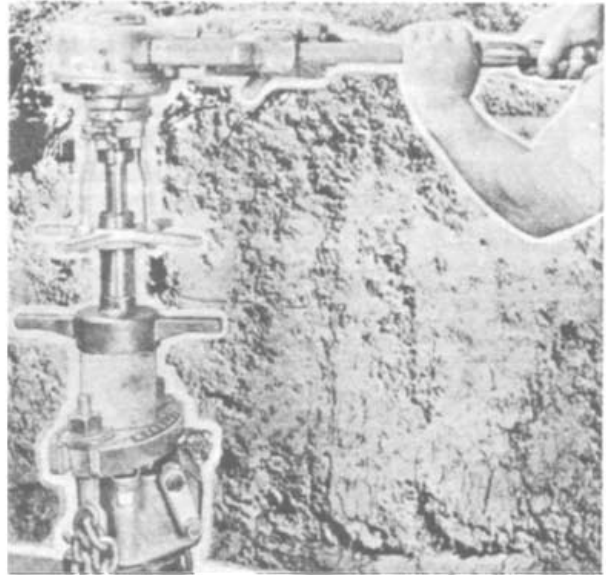

FIGURE 12
3. Start drilling operation (FIGURE 11 shows the H-603 Electric Power Operator and FIGURE 12 shows the H-604 Air Power Operator) and continue drilling until drilling operation is completed. Completion of drilling operation can be easily detected by torque required to resist power unit and sound of power unit.